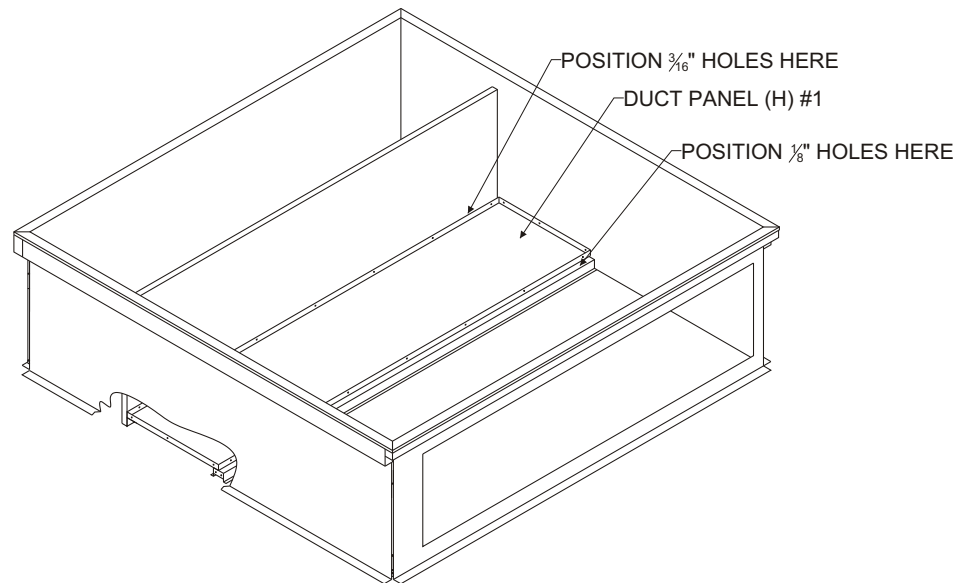

Figure 6
Install duct panel (H) #1 with holes located as shown in Figure 6. Secure duct panel (H) #1 to divider panel (J) and curb sides (A).